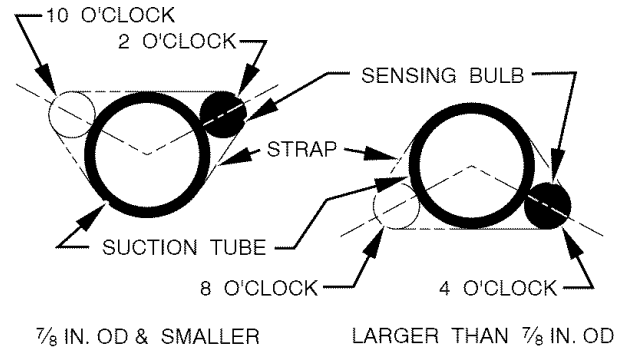

Fig. 4 – Position of Sensing Bulb
8. Attach TXV bulb to horizontal section of suction line using clamps provided. Insulate bulb with field-supplied insulation tape. See Fig. 4 for correct positioning of sensing bulb.
9. Reinstall TXV support clamp (removed in item 3).
10. Attach TXV bulb to vapor tube inside cabinet, in same location as original was when removed, using supplied copper bulb clamps. See Fig. 4 for correct positioning of sensing bulb.